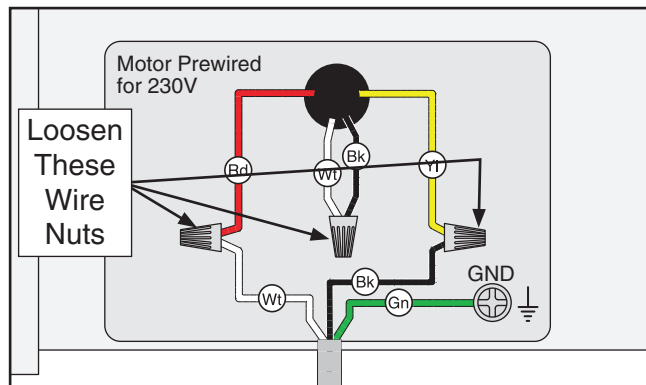

Figure 6. Location of wire nuts to be loosened on motor junction box.
3. Open motor junction box, then loosen three wire nuts indicated in **Figure 6**.